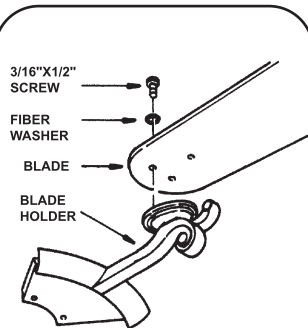

Fig.19
Step 1. Attach the fan blades to the blade holders using the screws & fiber washers provided. (Fig 19).